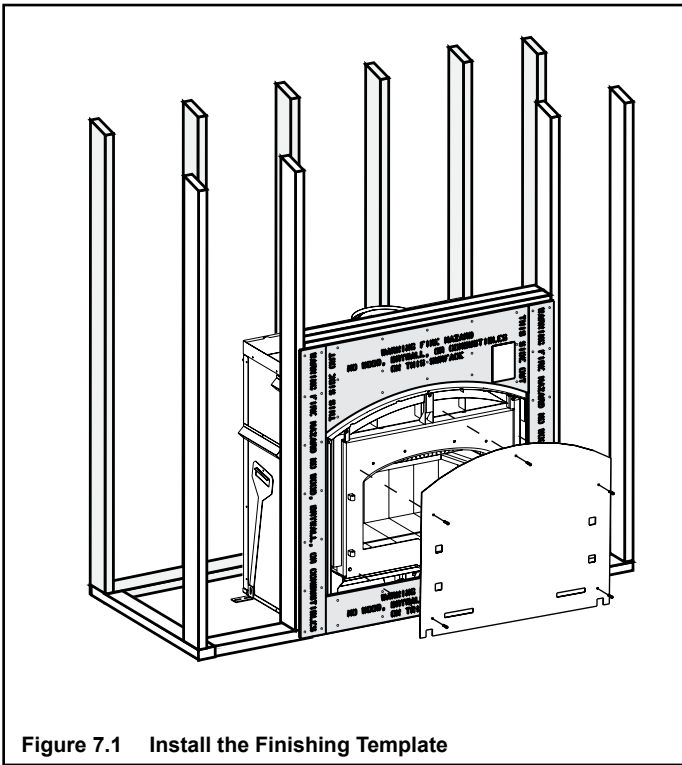

Figure 7.1 Install the Finishing Template
- Install the template on the front of the fireplace (Figure 7.1) using the screws saved in the previous step.